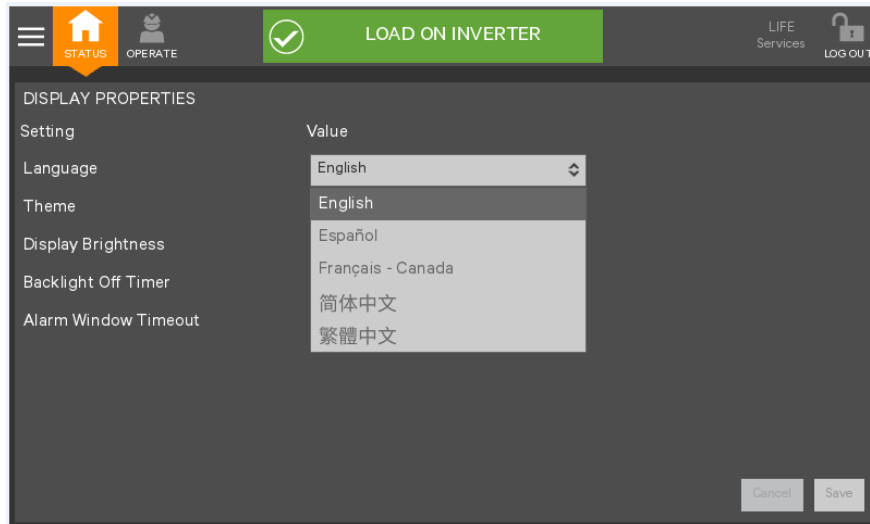

Figure 5-11 Setting language
5. As shown in Figure 5-11, click 'Language' to set the language you need.